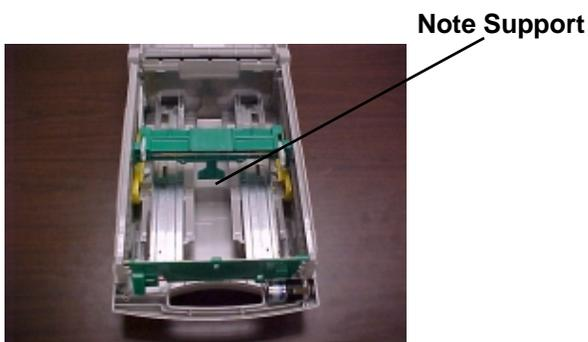
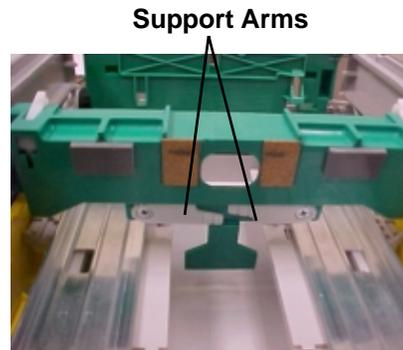

Figure 1
Figure 2
- Refer to Figure 1. Identify the note support assembly. If the note support arms are made of metal, they must be removed before the length adjustment can be performed. If the note support arms are made of plastic, ensure they are in the “Not In Use” position (folded in as shown in Figure 2).